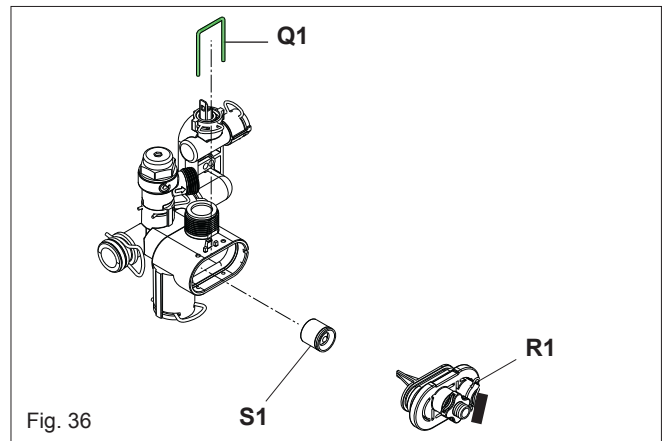

Fig. 36
6.17 AUTOMATIC BY-PAS (fig. 36)
Isolate the appliance from the electrical supply and remove the appliance casing as described in 4.7.1, to gain access to the printed circuit board, locate and open the closing plug on the dash board (L2), Restore the electrical supply to the boiler and switch the boiler to the OFF mode. locate and press the CO button (see fig. 36 pos. SW1). Press the button the number of times according the function requirement as par 7.3.1. Set the flue gas analyser to read CO₂ and insert the probe into the flue analysis test point (Y1-Z1 fig. 33).